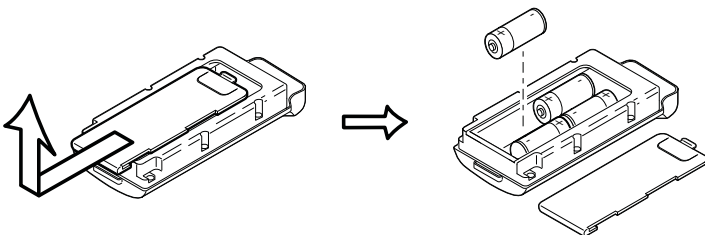

Figure 2-14. Remove Cover and Insert AA Batteries
To assemble the AA battery shell to the GR-5 (Figure 2-14):
2. Insert four AA batteries as shown on the inside of the shell (and in Figure 2-14 below).